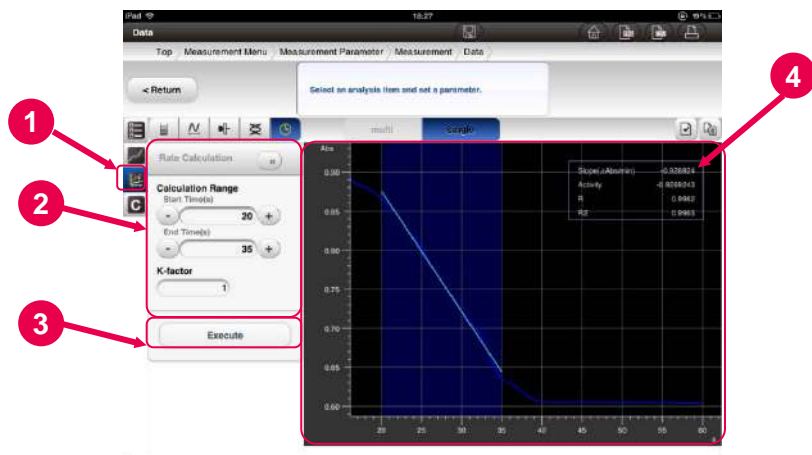

Fig. 5-66 Rate Calculation Setting Parameters window
- (1) To specify rate calculation conditions, press the [Rate Calculation Tool Icon] button .
- (2) The rate calculation setting parameters (Fig. 5-66) are displayed. See 4.3.5 “Time Scanning” for the setting parameters.
- (3) Set up the items and press the [Execute] button.
- (4) The results of the date processing are displayed.